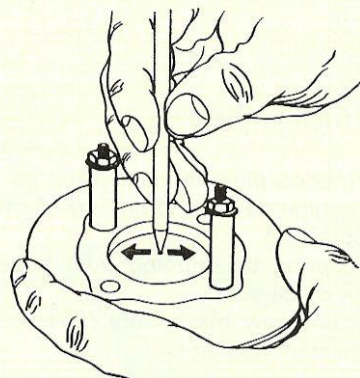

fig. 13
- fit cylinder properly on casting by using 2 distance bushes on diagonal studs (fig. 13)